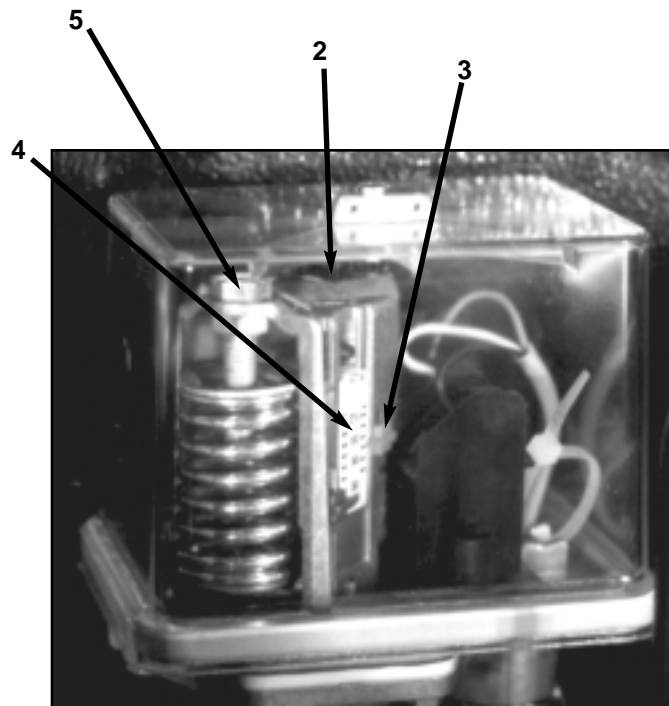

FIGURE 3.5-2 PRESSURE SWITCH ADJUSTMENT
3. Set the on-line pressure by turning screw 5 (See Figure 3.5-2). Turn clockwise to increase setting or counter-clockwise to decrease setting (indicated by pointer 4).